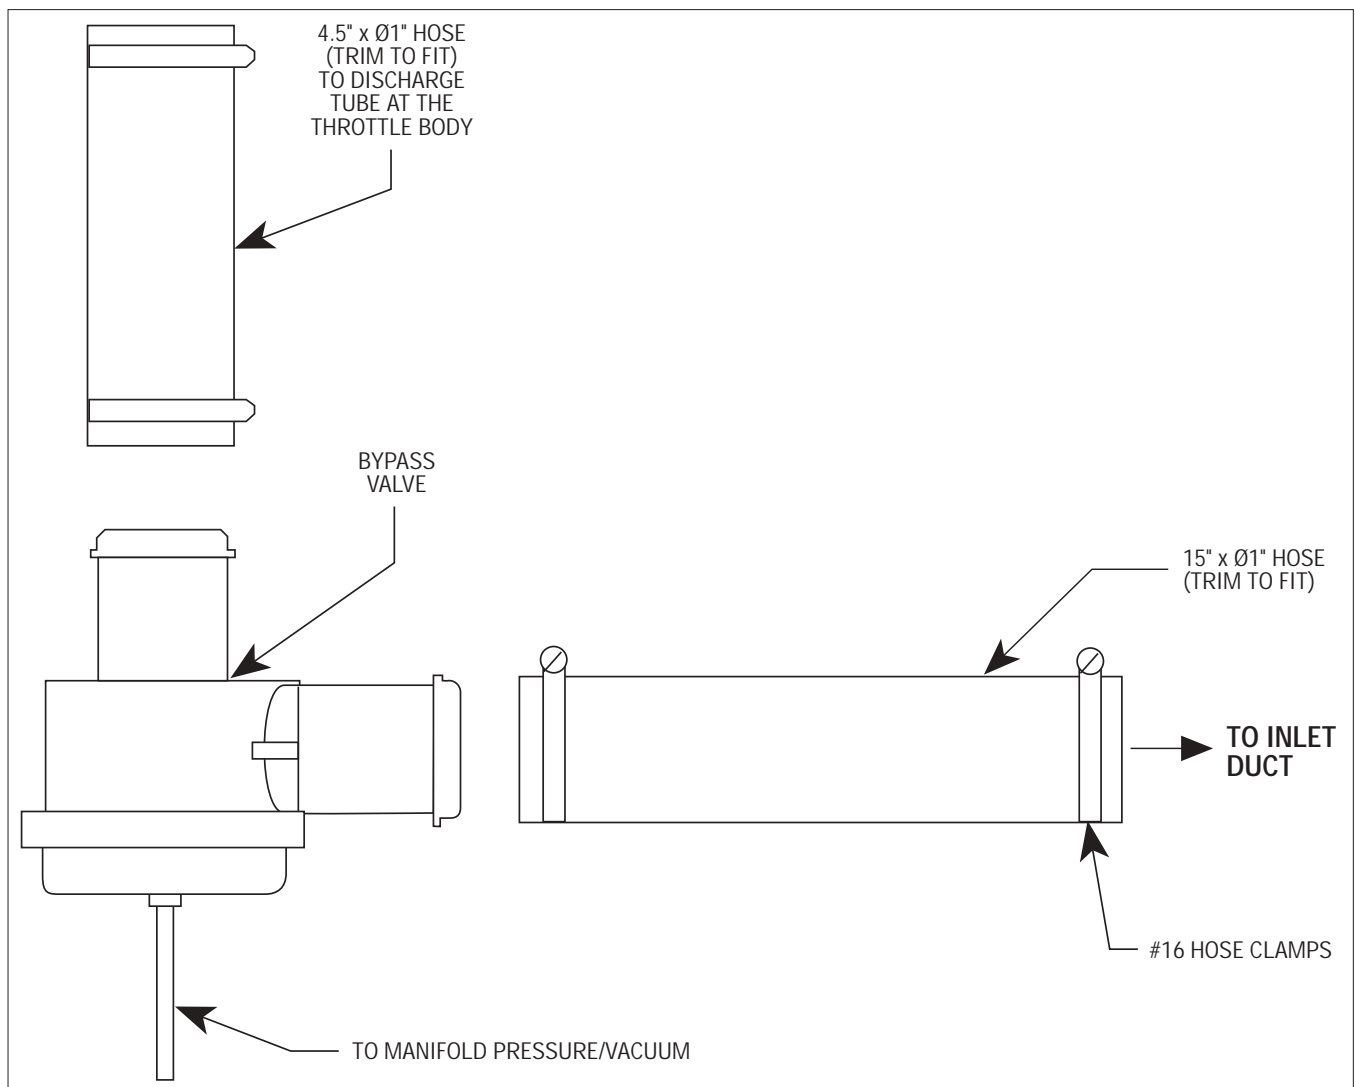

Fig. 8C-b
- d. Attach the open end of the 4.5" hose to the by-pass port on the cast discharge duct and secure using a #16 hose clamp. The open end of the 15" long hose will be attached to the inlet duct in a later step. (See Fig. 8C-b, 8C-d.)